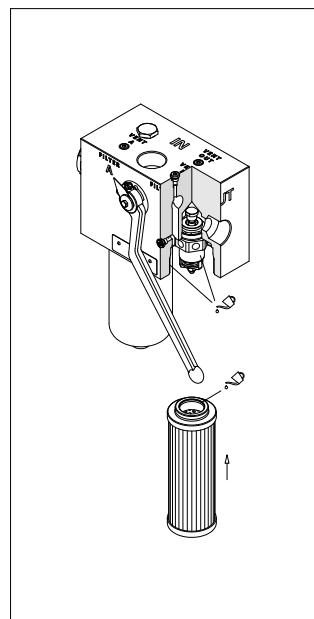

fig. 13
- (Fig. 13) Lubricate with the operating fluid the filter element O-ring, the housing tap and cavity, then fit the filter element on the tap. Pay attention not to damage the O-ring seal